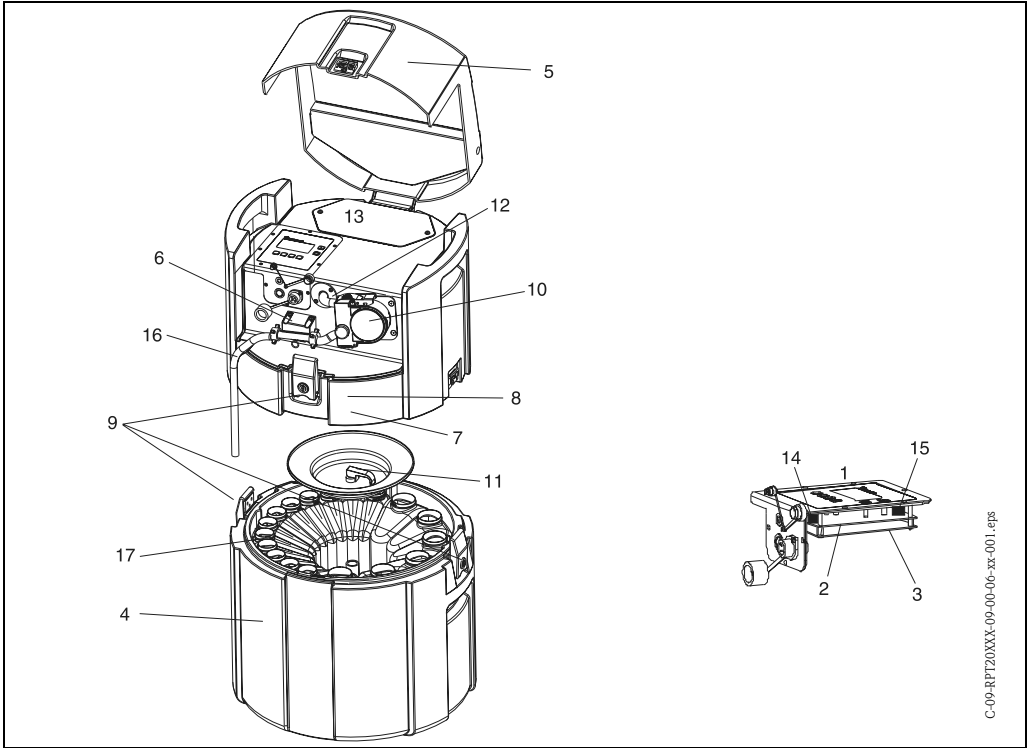

Fig. 46: Spare parts (position numbers are explained in the spare parts list)
A	Controller complete (→ Fig. 46, pos. 1)
B	CPU incl. display up to no. 520013040B3 (→ Fig. 46, pos. 2)
G	CPU incl. display (→ Fig. 46, Pos. 2) from No. 520014040B3